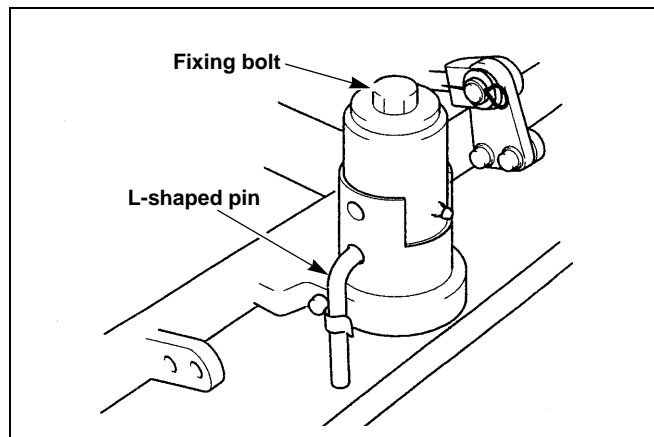

Figure 4-42
3. Pull out the L-shaped pin from the lowering arm. Figure 4-42
4. Remove the fixing bolt above the draw arm and remove the cutting unit. Figure 4-42